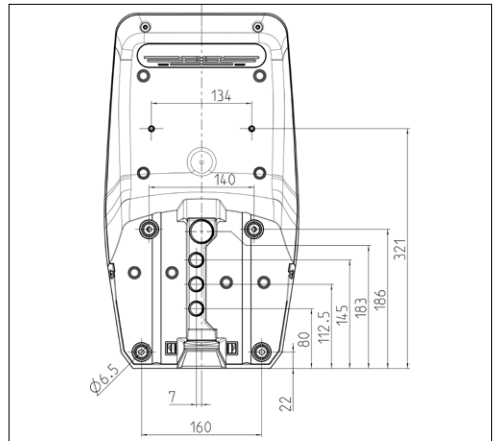

Fig.: 10. Drilling dimensions [mm]
- ▶ Mark the mounting holes using the supplied drilling jig or „Fig.: 10. Drilling dimensions“.